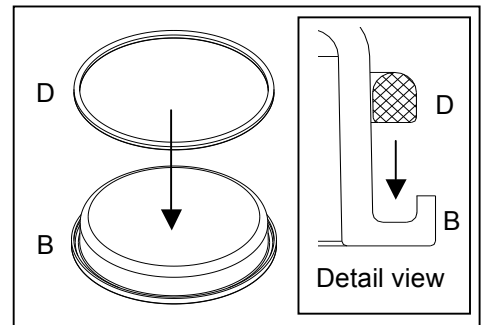

Fig. 7
- Turn over the cover and locate the groove. Place the o-ring into the groove. Notes: o-ring one side is flat, another side is round, must place the flat side down into the groove of cover, otherwise it will cause leakage. (See detail view) Fig. 7